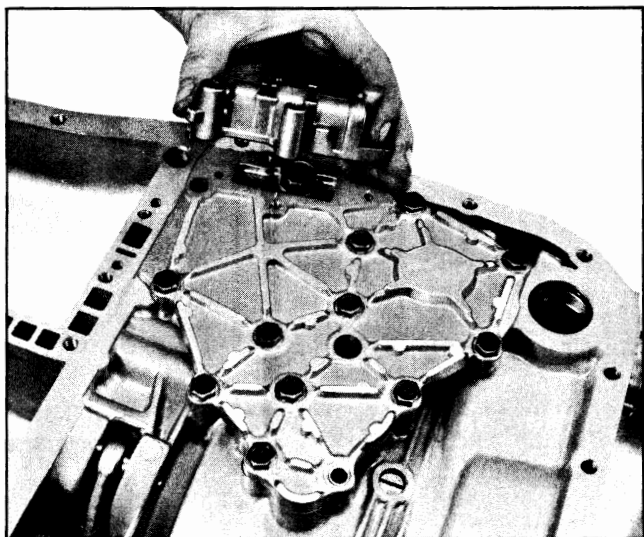

Fig. 7C-41 Removing Compensator Valve Body
12. Remove five (5) control valve assembly attaching bolts and carefully remove control valve assembly from the pipes and rear bearing retainer being careful not to drop the manual valve (Fig. 7C-42).